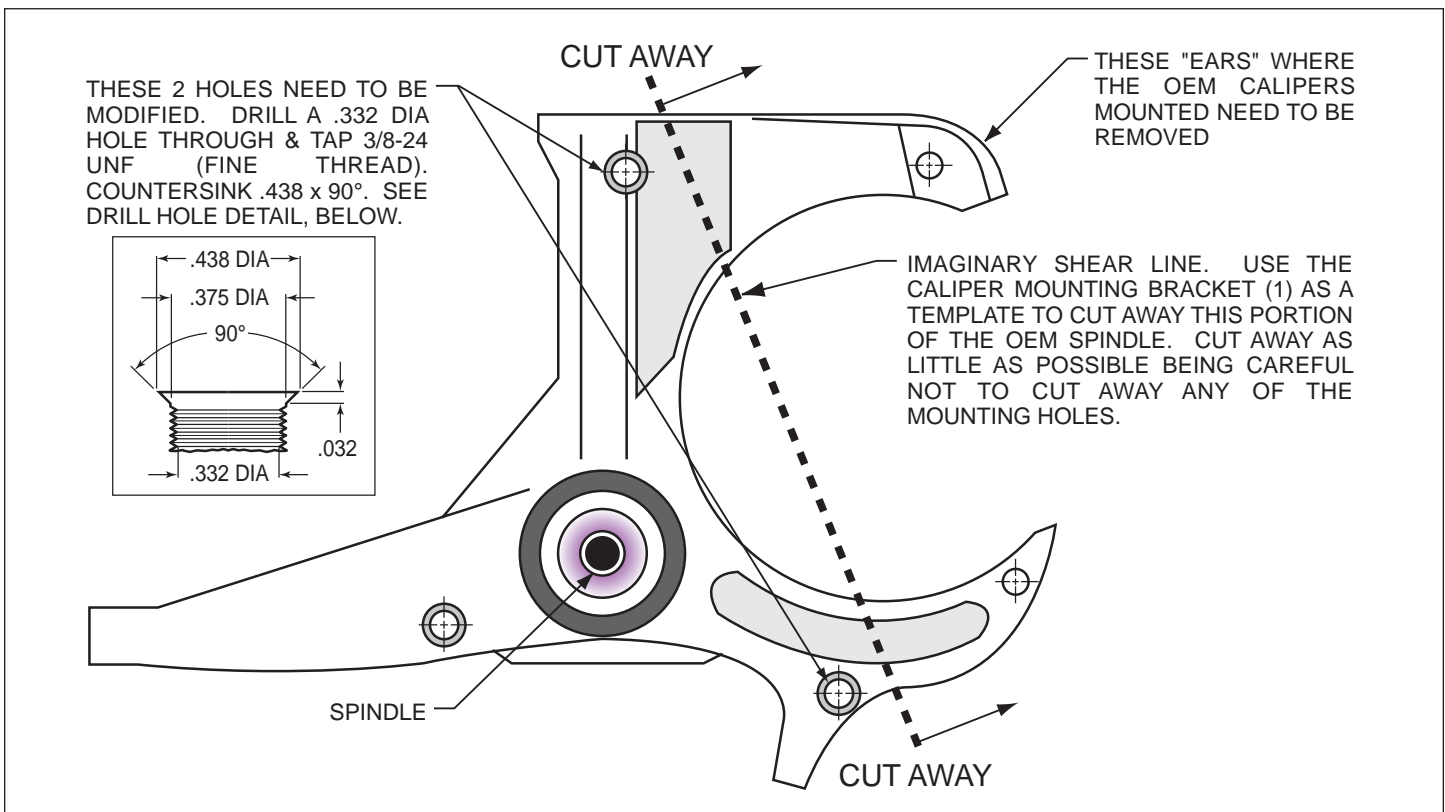
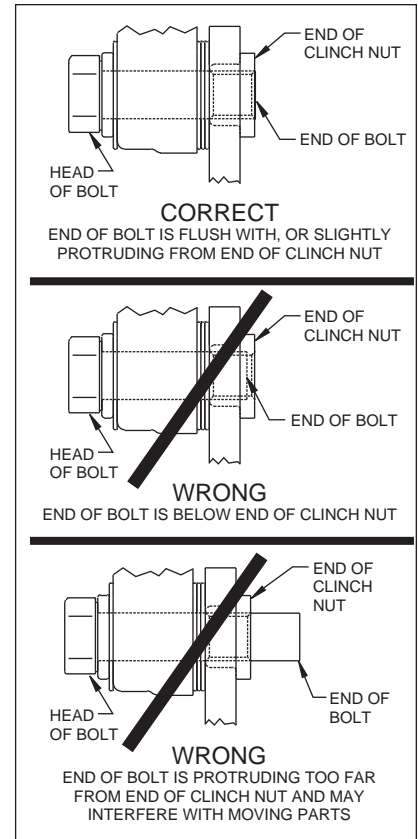

Figure 1. Steering Arm / Spindle Modifications
Figure 4.
These modifications should be performed by a qualified machinist. Refer to Figure 1 on the following page as necessary (numbers in parenthesis refer to the parts list on page three). Only one view of the steering arm/spindle is shown, but the modifications need to be performed on both steering arm/spindles.
- Apply red *Loctite*® 271 to bolt threads (2) before assembly of the caliper bracket (1) to backing plate face of spindle. Position the caliper mounting bracket (1) onto the spindle while positioning spacers (3) between bracket and spindle face. Slip the mounting bolts (2) into the threaded spindle holes, finger tighten. Torque two bolts (2) to 30 ft-lb. **NOTE:** Be sure the heads of the caliper bracket (1) insert nuts are facing outward toward the wheel.
- Install five new wheel studs (4) into the hub (5). Torque to 77 ft-lb. **NOTE:** There are two five lug patterns in the hub (5 x 4.50 and 5 x 4.75). Make sure of the correct hole pattern for the correct wheel application before installing studs into hub.
- Pack the large inner bearing cone (6) with high temperature disc brake bearing grease (available from your local auto parts store) and install into the backside of the hub (5).
- Install the grease seal (7) by pressing into the backside of the hub (5).
- Orient the rotor (9) and the rotor adapter (8) as shown in Figure 1. Attach the rotor to the adapter using bolts (10). Using an alternating sequence, apply red *Loctite*® 271 to the threads, and torque to 25 ft-lb.
- Mount the adapter/rotor assembly (8/9) to the hub (5) using bolts (11), as shown in Figure 1. Using an alternating sequence, apply red *Loctite*® 271 to the threads, and torque to 45 ft-lb.
- Pack the small outer bearing cone (12) with high temperature disc brake bearing grease and install into front of hub (5). Slide the hub/rotor assembly (5 and 9) with outer bearing cone (12) onto the spindle. Secure using supplied washer (13), original adjusting nut and nut locking device.
- Install the dust cap (15) onto the hub (5). Friction created by the o-ring (14) on the dust cap (15) keeps it from unscrewing. The O.D. of the existing spindle washer may be larger than the I.D. of the dust cap (15) not allowing it to seat against the hub face. Therefore, use the spindle washer (13) supplied with the kit instead of the stock washer.
- NOTE:** Please reference the caution statement at the beginning of the assembly instructions. Mount the caliper (16) onto the caliper mounting bracket (1) using washers (17) and bolts (18) positioned between caliper (16) and the caliper mounting bracket (1). Finger tighten. View the rotor (9) through the top opening of the caliper (16). The rotor (9) should be aligned in the center of the caliper (16). If not, adjust the caliper (16) by using 0.032 inch thick shims (19) placed between the caliper mounting bracket (1) and the caliper (16). Add as many shim washers (19) as necessary to achieve the correct alignment. Finger tighten and recheck alignment, adjust as necessary. **NOTE:** The end of the bolt must be flush with or slightly protruding from the head of the clinch nut. See Figure 4. Place spare shims (19) between washer and caliper mounting ear to achieve the proper mounting fastener configuration. Always use the same amount of shims on both the top and bottom caliper mounting bolts (18). Apply red *Loctite*® 271 to bolt threads (18) and torque to 40 ft-lb.
- Install the disc brake pads (20) into the caliper (16). Secure the disc brake pads to the caliper utilizing cotter pin (21).